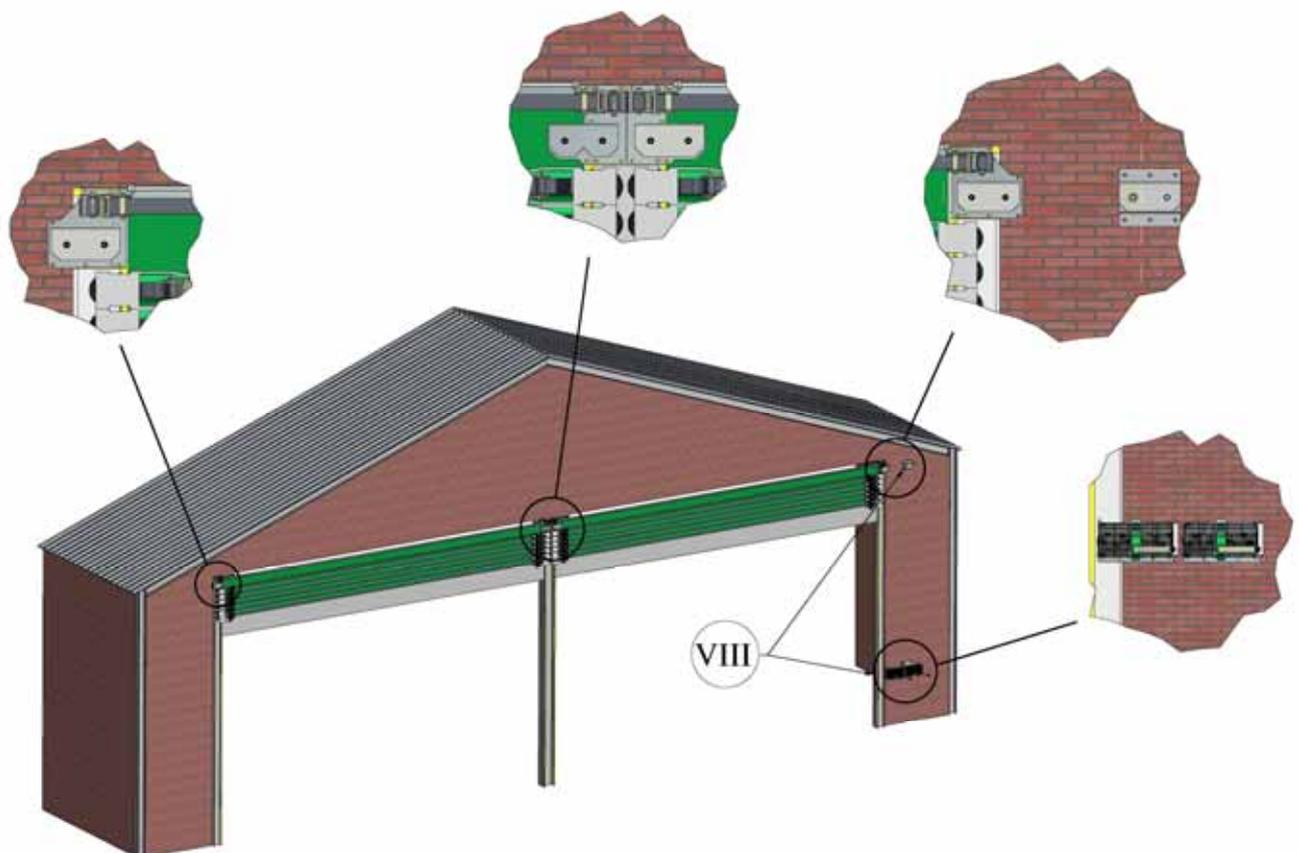

Figure 9c. Adjacent drives
- ❖ If both drives are to be mounted on extreme left or right then the minimum width of the central tracking is 250mm, and 1000mm is required to accommodate the adjacent drives (Figure 9c). If this option is required contact your Galebreaker Dealers, Distributor or Head Office for details of the additional parts.